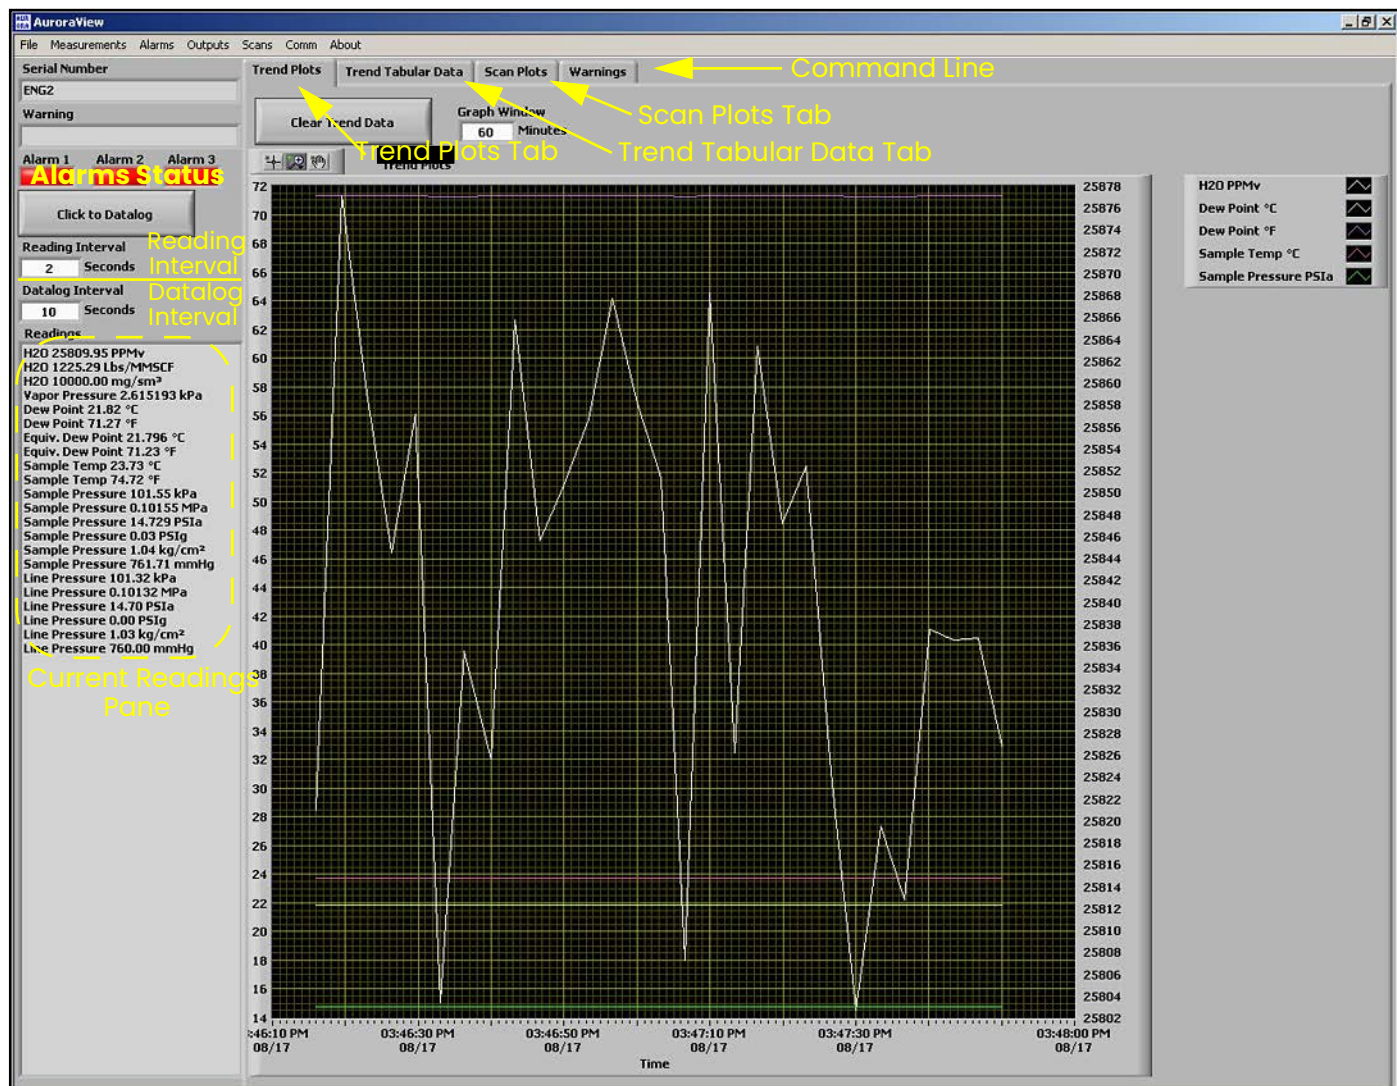

Figure 60: AuroraView Main Screen
2. **AuroraView** boots up and displays a screen similar to *Figure 60* below.